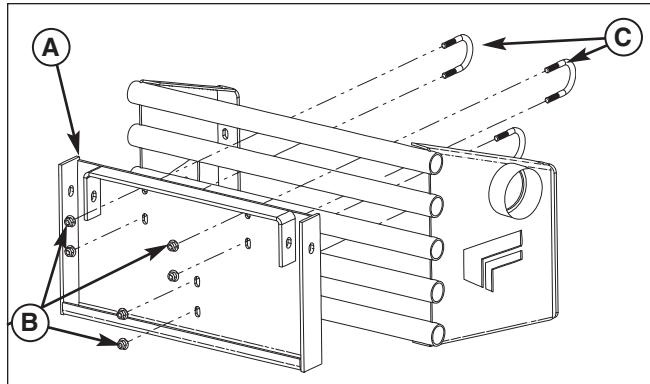

Figure 37. Install Collector Mount Plate
1. Install the collector mount plate (A, Figure 37) on to the bumper. Install two of the 3/8-16 U-bolts (C) over the second tube down from the top of the bumper and through the mounting plate and loosely secure with the 3/8-16 nylock flange nuts (B).
2. Install the remaining 3/8-16 U-bolt bolt (C) over the forth tube down from the top of the bumper and loosely secure with the 3/8-16 nylock flange nuts (B).
6. Tighten the top mounting bolts (C, Figure 37) securely and remove the hitch pins and mount posts.